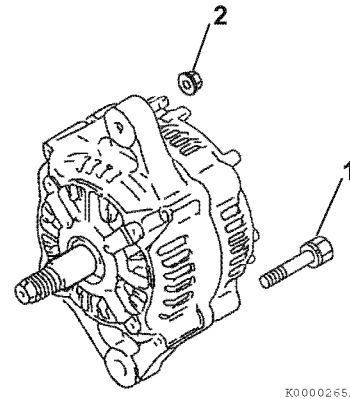

Figure 12-8
7. Remove the two bolts (1, **Figure 12-8**) and two nuts (2, **Figure 12-8**) securing the rear frame housing to the front frame housing.